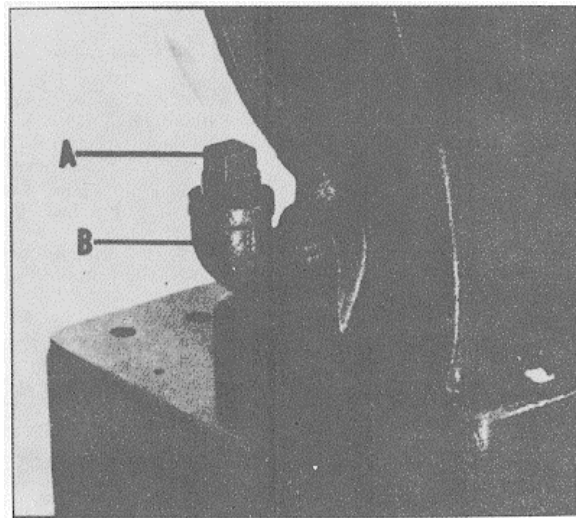

Fig. 24
All models are equipped with a 1/2-inch street elbow (A) Fig. 24, and a pipe plug (B).
Remove the pipe plug (B) Fig. 24, to check the level of oil in the gear case from time to time and keep it filled to insure proper gear lubrication.